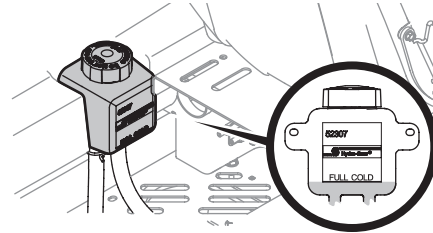

Fig. 40
1. Pivot the operator's seat forward and clean the reservoir cap and the area around the cap to prevent debris from contaminating the transmission oil (Fig. 40).
2. Turn the reservoir cap counterclockwise to remove, then check the oil level in the reservoir. Oil should be visible at the bottom of the cup, but the oil level must NOT be above the "FULL COLD" line (Fig. 40). DO NOT FILL THE RESERVOIR.